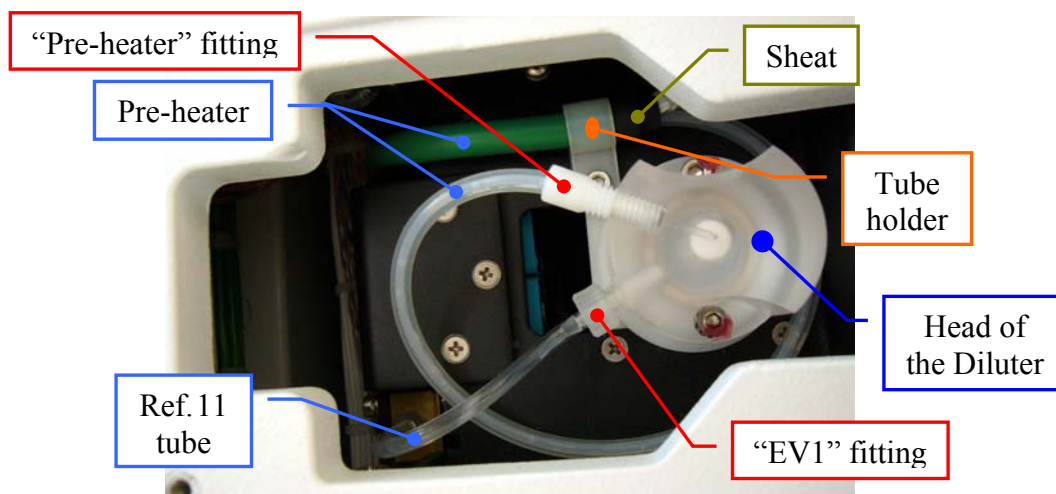

Fig. 34 – Head of the Diluter
7. Replace the Pre-heater tube around the head of the Diluter as showed in the **Fig. 34**, push its piece of the sheat in the tube holder and screw the tube holder screw.
8. Screw the “Pre-heater” fitting and the “EV1” fitting on the head of the Diluter (**Fig. 34**).